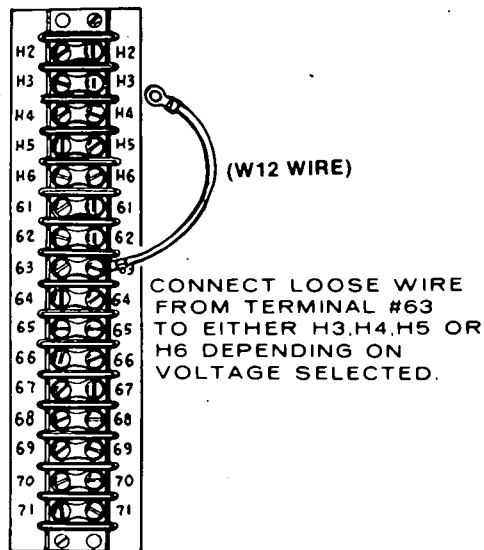

FIGURE 20. REFERENCE VOLTAGE CONNECTION (TB21)
3. Open hinged control panel doors. Connect lead from terminal 63 to correct terminal for voltage desired. These terminals are labeled H2, H3, H4, H5 and H6. See Figure 20.